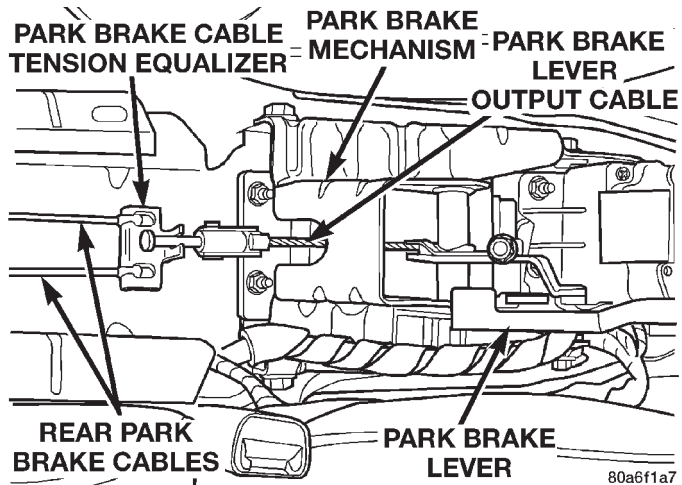

Fig. 139 Park Brake Cable Tension Equalizer
(4) Install a **NEW** park brake cable tension equalizer on the park brake lever output cable and rear park brake cables (Fig. 139).